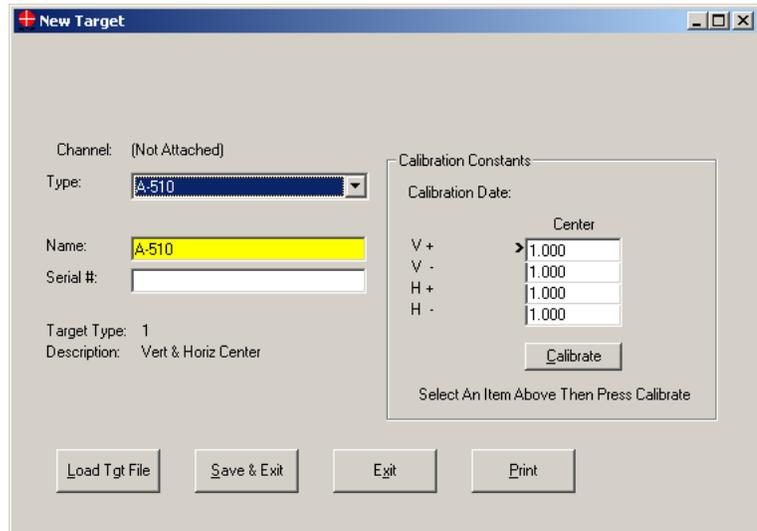

Figure 25 – New Target Screen
1. Click **New Target** to display the **New Target** screen (see Figure 25).